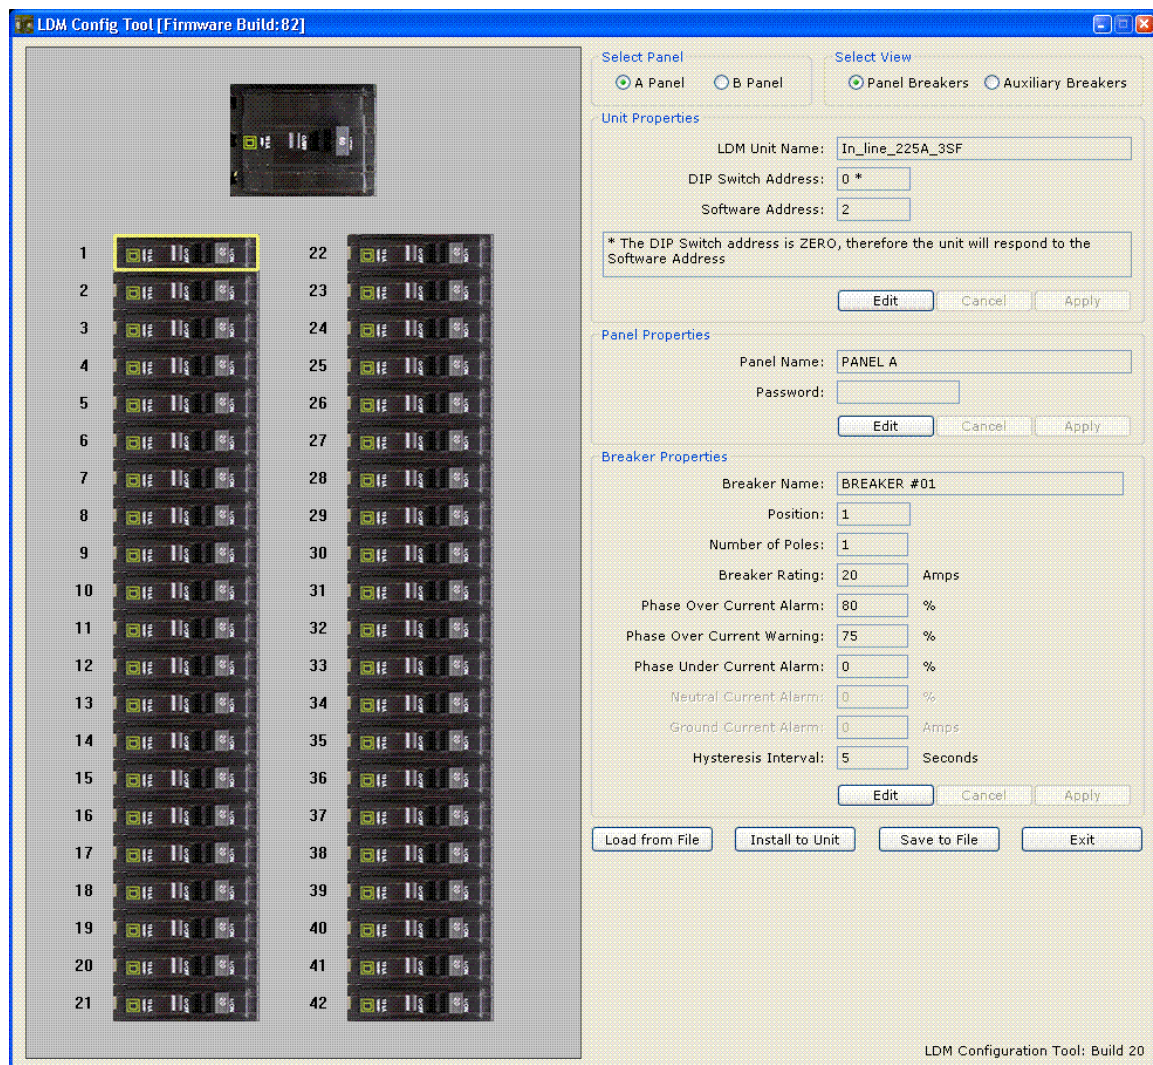

Figure 1: Configuration Tool
1.2.1 Current configuration loaded on unit will be displayed/See Fig. 1
- Edit (select breaker) - All highlighted properties can be modified using “Edit”. The grayed out properties (position and number of poles) will change automatically if modified./See Figs.1, 2, and 3